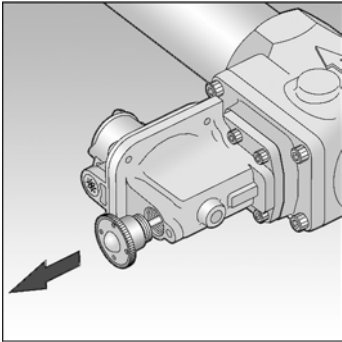

Fig. 5
4. If safety shut-off device is fitted unscrew reset spindle end cap and firmly pull. Hold in this position until the outlet pipework is fully pressurized, then release reset spindle end cap gently. See Fig. 5.
11. If safety device fitted, re-cock by unscrewing reset spindle end cap and pulling firmly. Hold in this position until the outlet pipework is fully pressurized, then release reset spindle end cap gently. Re-screw reset spindle end cap into body. See Fig. 5.